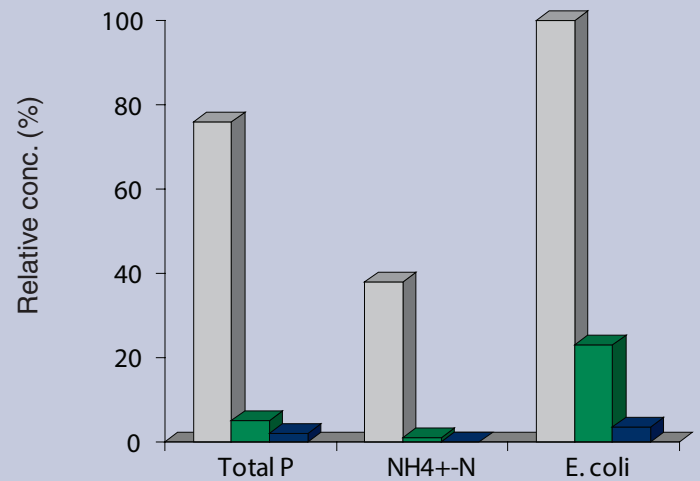

Figure 1.
- Trials show the loss of phosphorus and bacteria to drainage water is only 5-7% of the loss of a travelling irrigator when soil is near field capacity. This also shows nitrogen levels in the drainage are minimised to almost nil (see Figure 1).